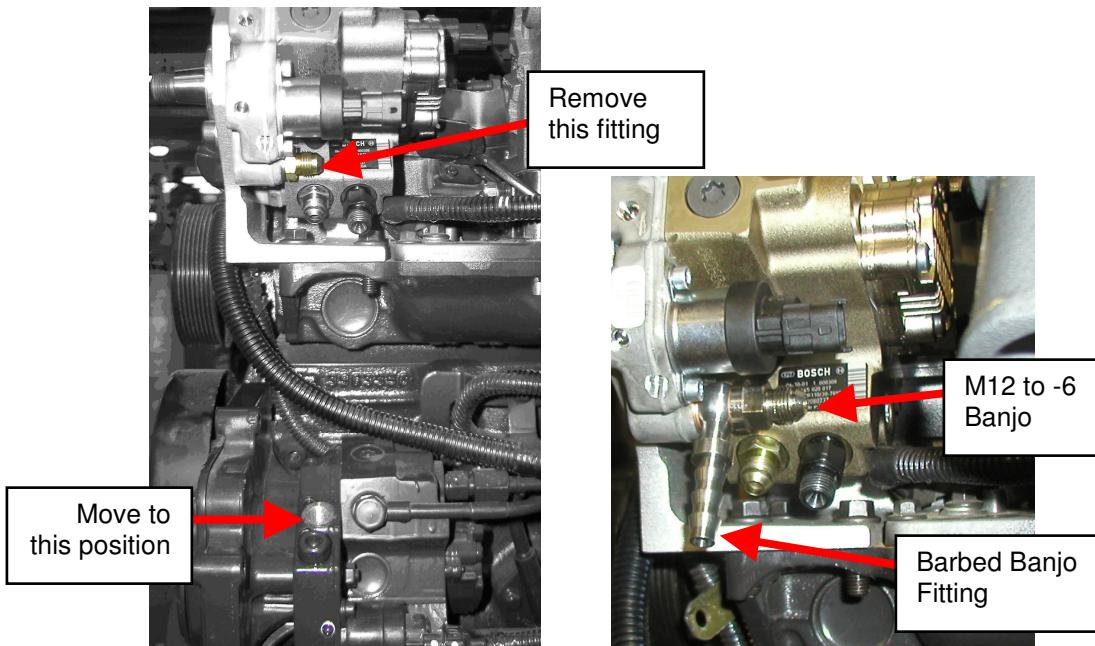

Figure 11 - Supply Line Plumbing
27. Install the new serpentine belt as shown in Figure 11. Be sure to tighten the tensioner bolt if it was removed.